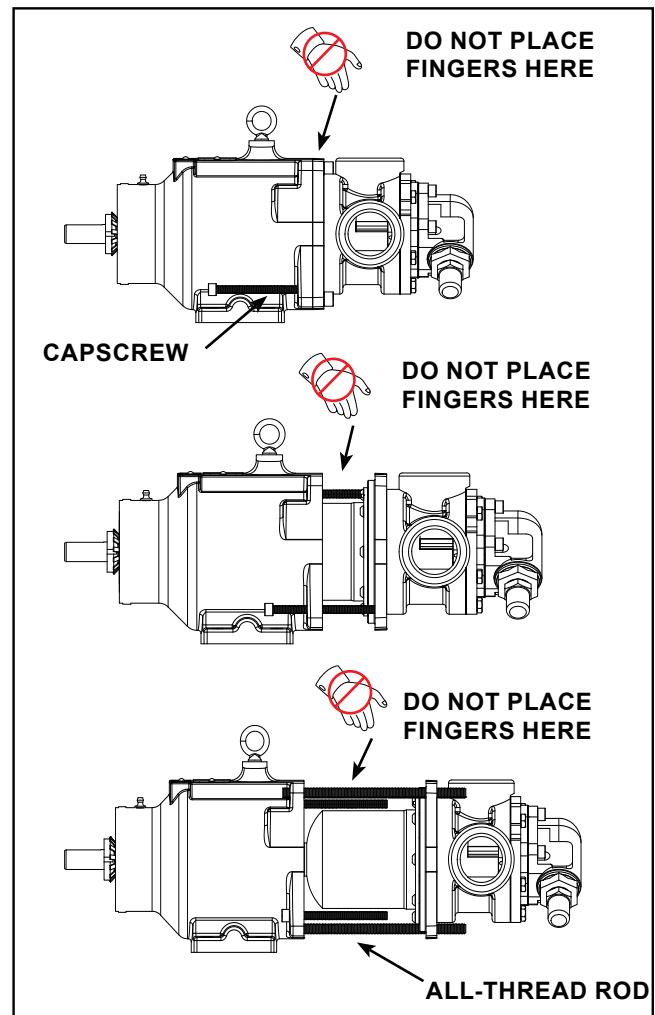

FIGURE 7
3. Mark the head (40) and casing (31) before disassembly to insure proper reassembly.
4. To inspect the head and pin assembly (39 and 40) and idler and bushing assembly (37 and 38), remove the head capscrews (43).
5. Remove the head from the pump. If the casing was not drained in Step 1, be careful of the liquid draining out between the head and casing. Do not allow the idler to fall from the idler pin. Tilt the top of the pump head back during removal to prevent this. Avoid damaging the head shim set (63) since all shims are required to maintain end clearance.
7. Remove the four socket head capscrews (28) securing the pump to the bracket. Support the pump with an overhead hoist, if possible.
8. Use the jackscrews (14) in the bracket to separate the inner magnet (57) from the outer magnet (58), see sequence in **Figure 7**. To keep the pump and bracket assemblies properly aligned and for additional safety, it is recommended to use 2 lengths of all-thread rod (6-8") threaded into diagonal capscrew locations in the bracket and slide through the corresponding holes in the adaptor plate.